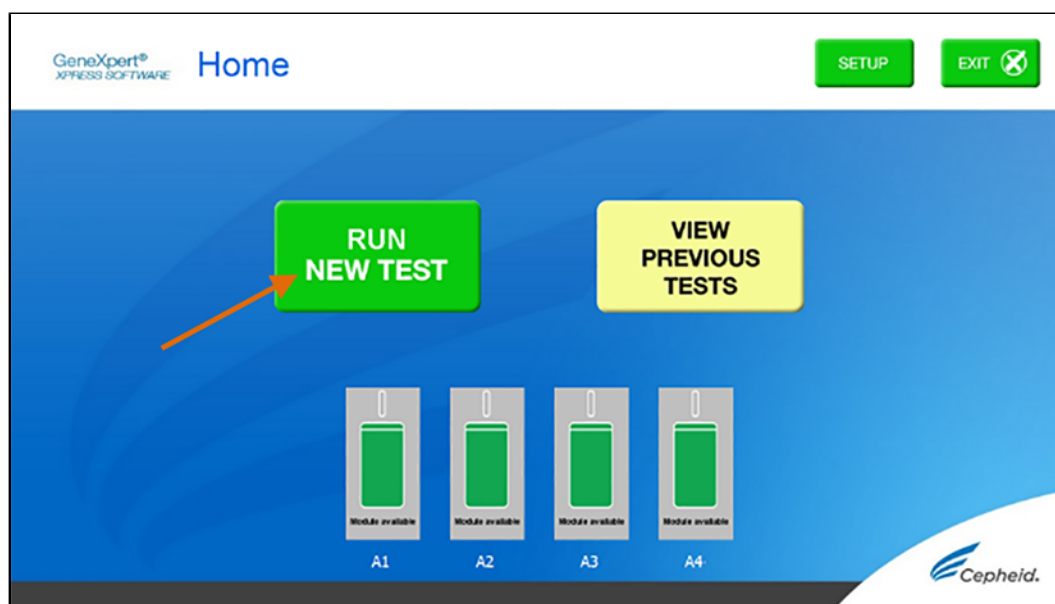

Figure 8. RUN NEW TEST button on Home Screen (GeneXpert Xpress IV screen shown)
1. Put on a new pair of gloves if performing a new test. Touch the **RUN NEW TEST** button on the **Home** screen (see Figure 8) to run a patient specimen or an external control.